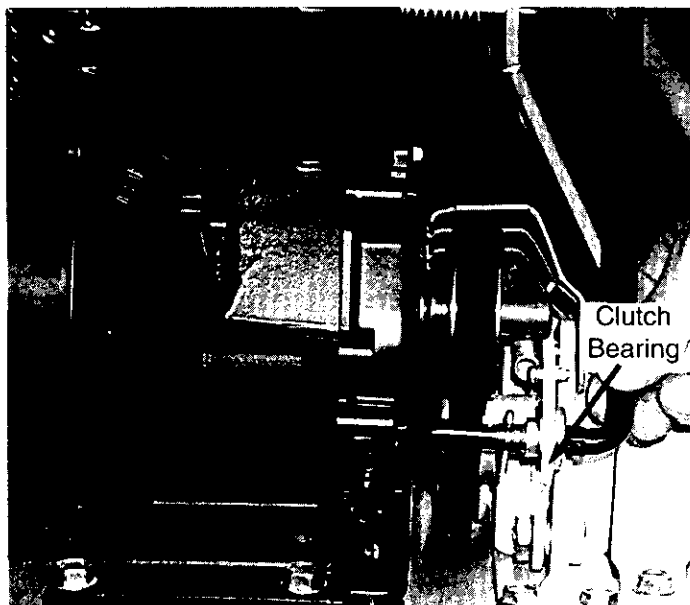

FIGURE 6: Put the bend end of the rod through the hole of the idler bracket. Secure later with a cotter pin.
ENGINE CLUTCH CONTROL ROD ASSEMBLY: (see Fig. 6)
2. Assemble the clutch control rod by inserting the short rod bent end in the clutch bearing. The end of the rod must be outside the belt (Fig. 6).